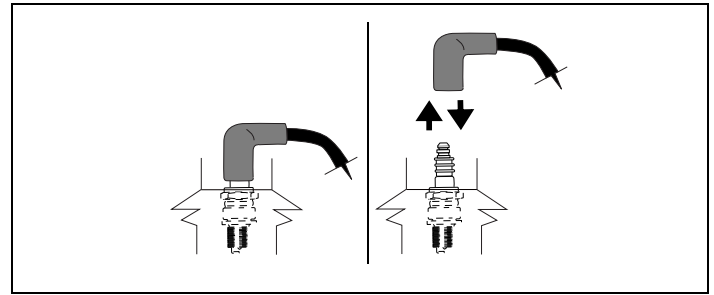

Figure 30. Disconnecting/Connecting Spark Plug
1. Carefully disconnect spark plug wire and keep it away from spark plug. See Figure 30. See "G. Avoid Accidental Starts" instructions on page 2. Afterward, continue reading instructions below.